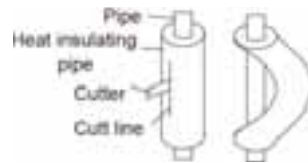

Fig. 4.12
- (2). Do not bend the pipes in an angle more than 90°.
- (3). When pipes are repeatedly bent or stretched, the material will weaken making it more likely to break. Do not bend or stretch the pipes more than three times.
- (4). For best results, cut insulation before bending, as shown in fig. 4.12. Bend pipe as needed and secure insulation with tape.